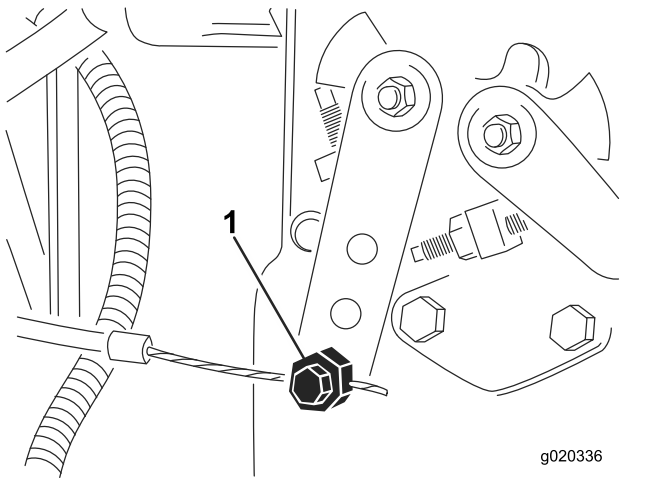

Figure 79
3. Loosen the throttle cable connector on the injection pump lever arm (Figure 79).